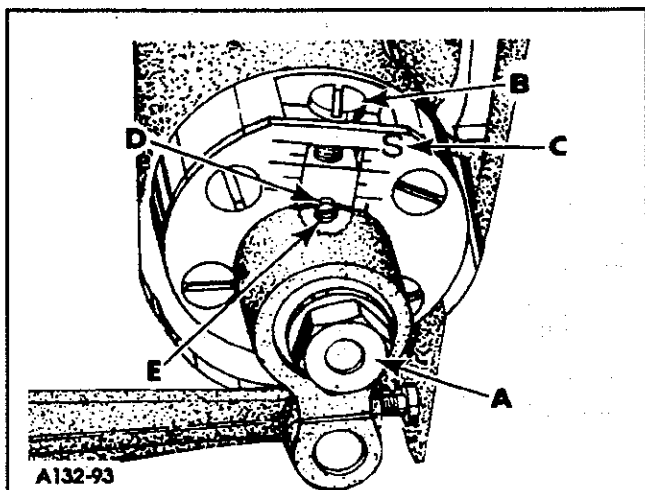

FIG. 14
Set the stitch to required length. This is accomplished by loosening locknut (A, Fig. 14) 1/2 turn (it has a left hand thread) on the end of the stitch regulating stud and turning stitch adjusting screw (B) located under the left end of the cloth plate, in the head of the main shaft (C), which is marked with "L" and "S". Turning the screw clockwise shortens the stitch (moves stitch regulating stud toward the "S") and turning it in a counterclockwise direction lengthens the stitch (moves stitch regulating stud toward the "L"). Re-tighten locknut securely.
To prevent destructive damage to the feed drive bearing, the Key screw (D) must engage the "U" shaped key slot in the ferrule (E). Torque nut (A, Fig. 14) to 55 in. lbs. (6.2 Nm).